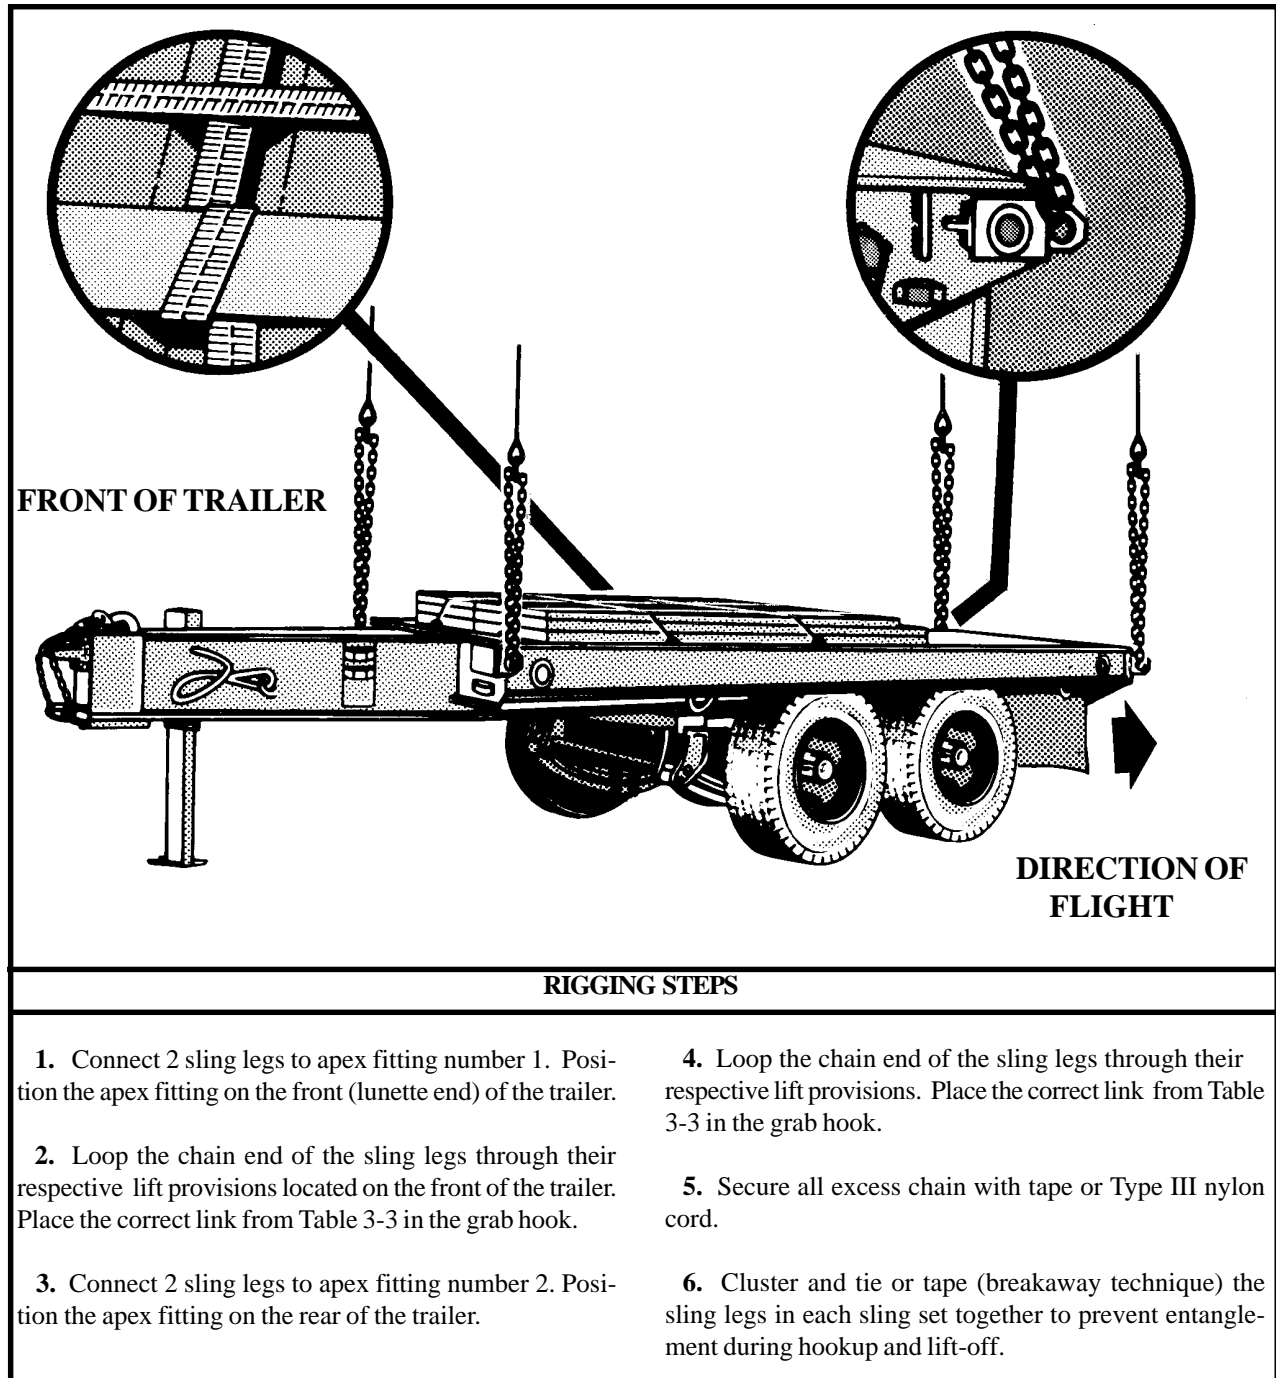

Figure 3-3. M989 HEMAT
(2) Rigging. Rig the load according to the steps in Figure 3-3.
(3) Hookup. The hookup teams stand in the bed of the trailer. The static wand person discharges the static electricity with the static wand. The forward hookup person places apex fitting 1 onto the forward cargo hook. The aft hookup person places apex fitting 2 onto the aft cargo hook. The hookup team then carefully dismounts the vehicle and remains close to the load as the helicopter